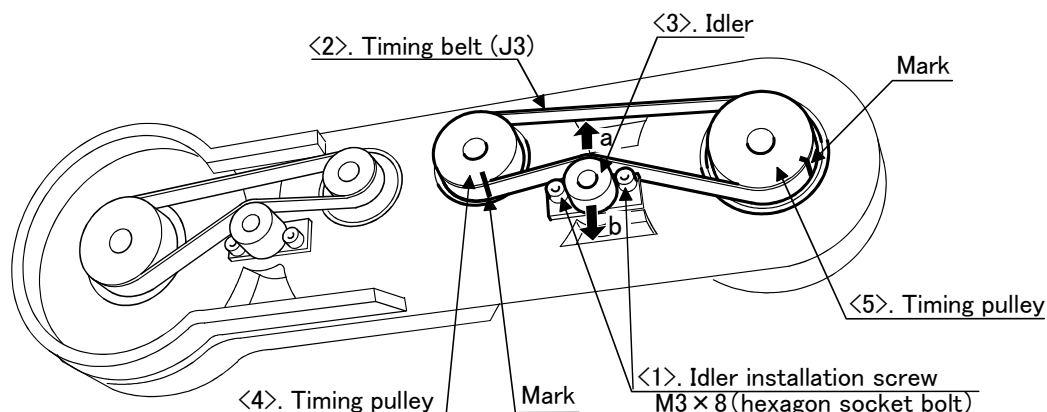

Fig.5-7 : Inspection, maintenance and replacement of J3-axis timing belt
- 1) Fig. 5-7 shows the methods for inspecting, adjusting and replacing the timing belt.
- 5) Make marks on the timing belt <2> and timing pulleys <4> and <5> with a felt-tip pen as shown in Fig. 5-7 so that the engagement of the timing belt <2> and timing pulleys <4> and <5> does not deviate.